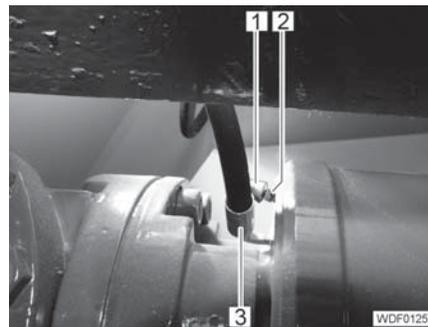

Fig. 139 Front axle venting nipple
- Unscrew the venting nipple (Fig. 139,2) by 1/2 a turn. Air and brake fluid escape.
- Place the protective cap (Fig. 139,1) onto the venting nipple.